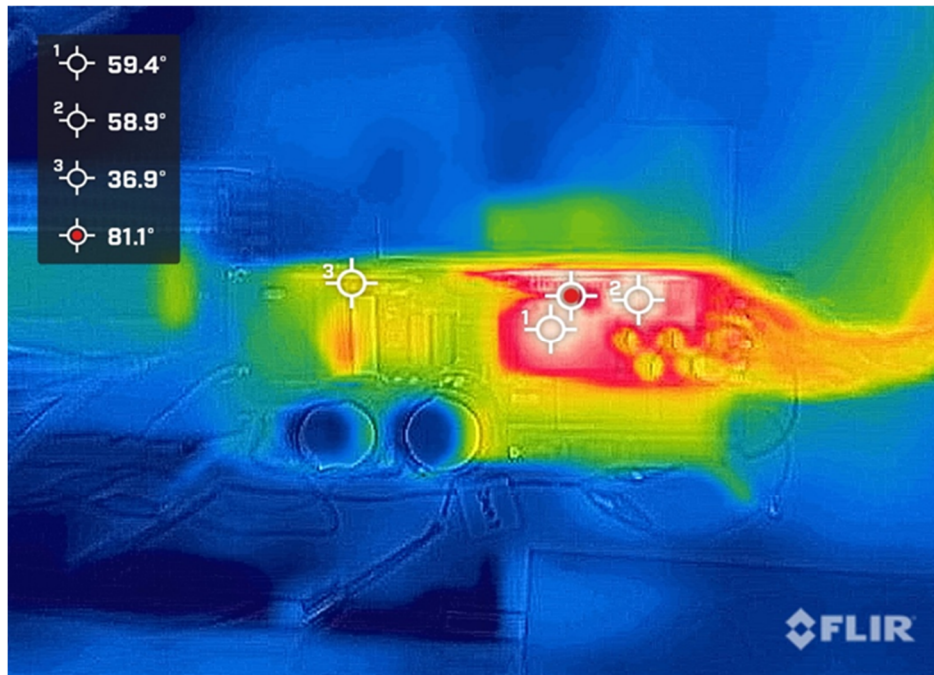

Figure 9. Surface Temperature Distribution (at Rated Load)
The thermal characteristic evaluation results when operated continuously for 30 minutes at the rated power (1000 W) condition are shown ( $T_a=25\text{ }^\circ\text{C}$ ). Figure 9 shows the surface temperature distribution using a thermography camera, and Table 2 details the temperature at each measurement point (MP). Note that this measurement was conducted under forced air cooling using an external fan, with a heat sink attached to the secondary board. The part generating the highest temperature on this evaluation board is the secondary winding (foil winding) of the transformer. If considering operation at higher power, it is necessary to redesign the transformer as the thermal design margin may become insufficient.